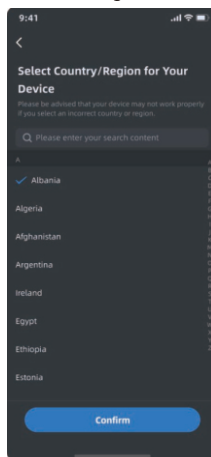

Figure 2
- 2) Figure 2: Select the country/region where the device will be used and click "**Confirm**".